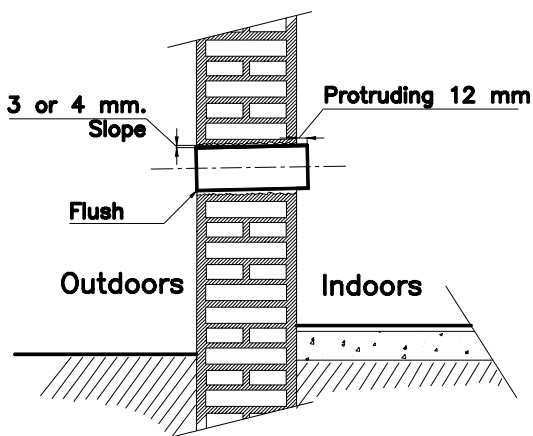

Fig. 6
- This pipe must protrude 12 mm indoors and be flush outdoors (Fig. 6).